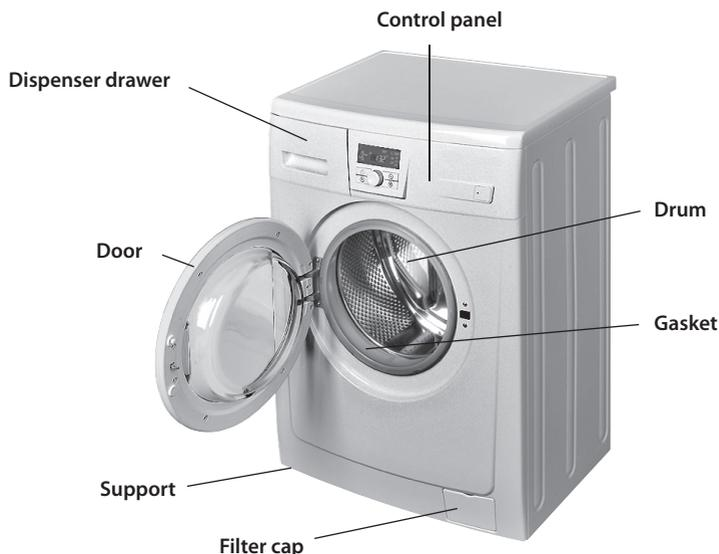

Figure 1 – Overall view
Major Machine components and its overall dimensions are illustrated in the Figures 1.
**CAUTION! To prevent the Machine from being damaged not, move it by grasping at the dispenser drawer, door, or gasket in accordance with Fig. 1**